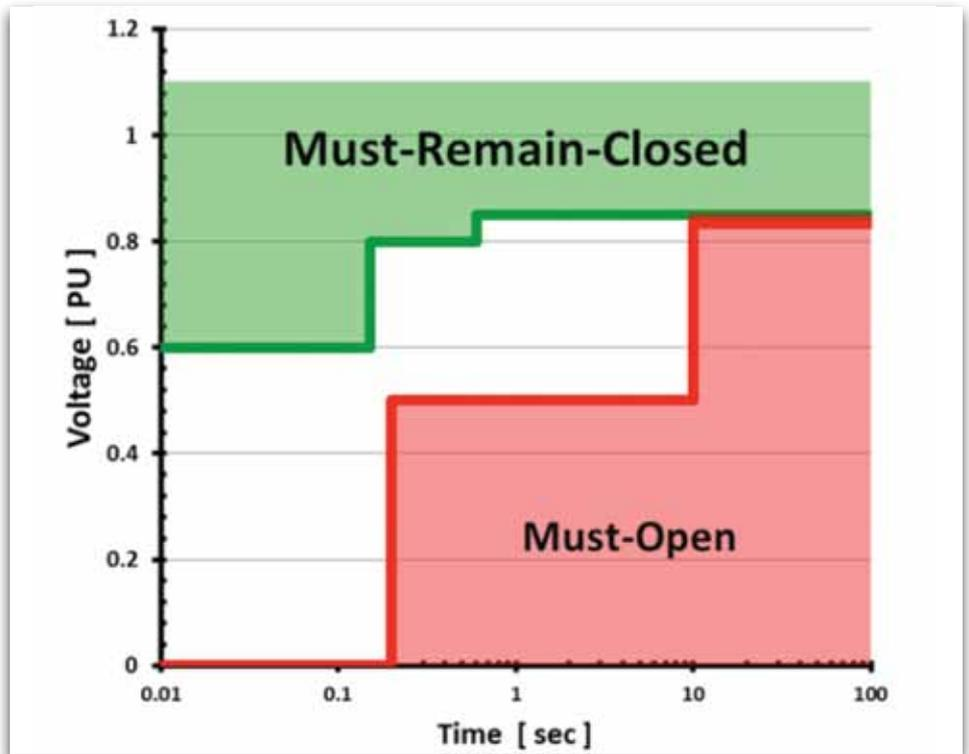

Figure 2. The requirements of the grid connection code for renewable power
- Low voltage Must-Open, voltage dip-time response, as per figure 2;
- Low voltage Must-Remain-Closed, voltage-dip-time response, as per figure 2;